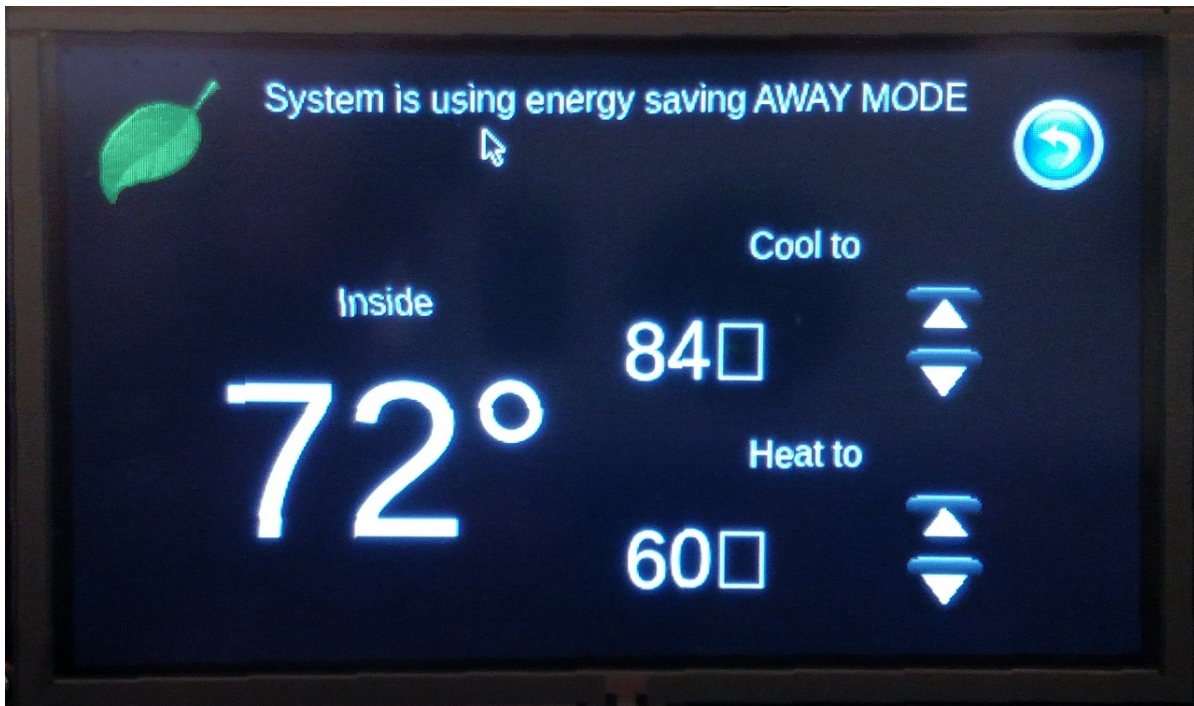

図 10. Smart Thermostat Demo GUI: Energy Saving Screen
5. The Airplane icon in 図 9 leads to the energy saving mode screen shown in 図 10.